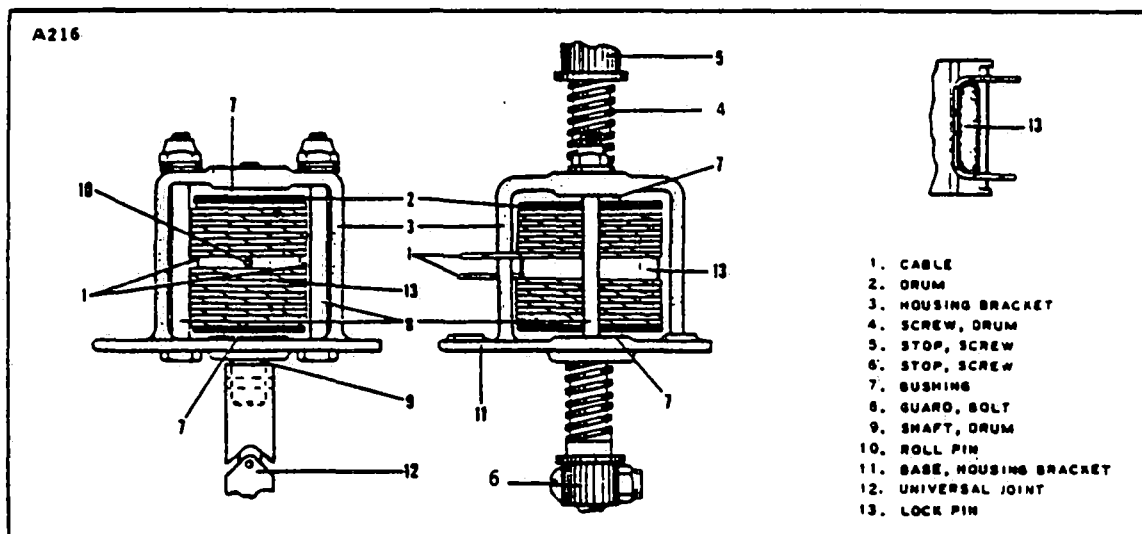

Figure 5-14. Trim Screw Assembly
5-47. WRAPPING TRIM DRUM. (Refer to Figure 5-14.) All trim drums are wrapped basically by the same procedure and must be removed from the airplane.
- d. Remove the drum (2) from the housing.
- e. Unwrap the trim cable and remove the cable and lock pin (13) from the drum. (If one end of the cable has been marked to facilitate hook-up of the cable ends, note this location in relation to the drum when installing a new cable on the drum.)
- f. Check the condition of the bushings (7) in the housing for excess wear.
- k. Insert the drum in the housing bracket, position the drum and route the cables from the assembly as shown in Figure 5-14.